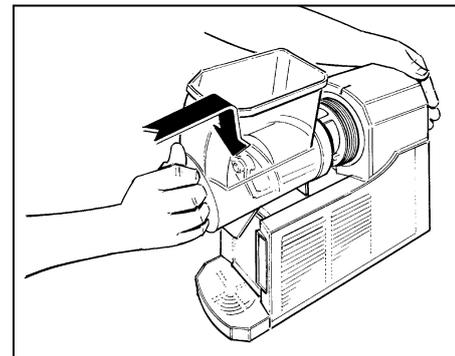

Fig. 26
- Reassemble the bowl by positioning it back into its seat until it gets blocked into it (see fig.26).